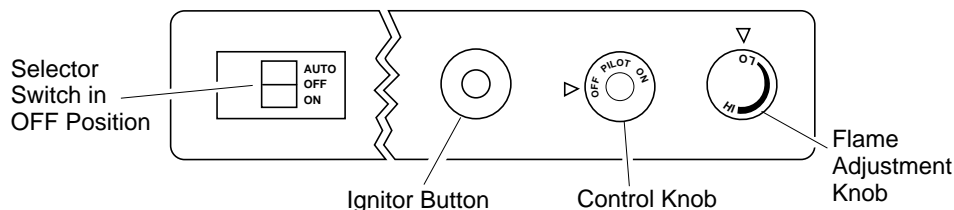

Figure 35 - Control Knob and Ignitor Button Location (Shown as Supplied, No Control Options)
5. Wait five (5) minutes to clear out any gas. Then smell for gas, including near the floor. If you smell gas, **STOP!** Follow "B" in the safety information. If you don't smell gas, go to the next step.
6. Press in and turn control knob counterclockwise ↺ to the PILOT position. Press in control knob for five (5) seconds (see Figure 35).